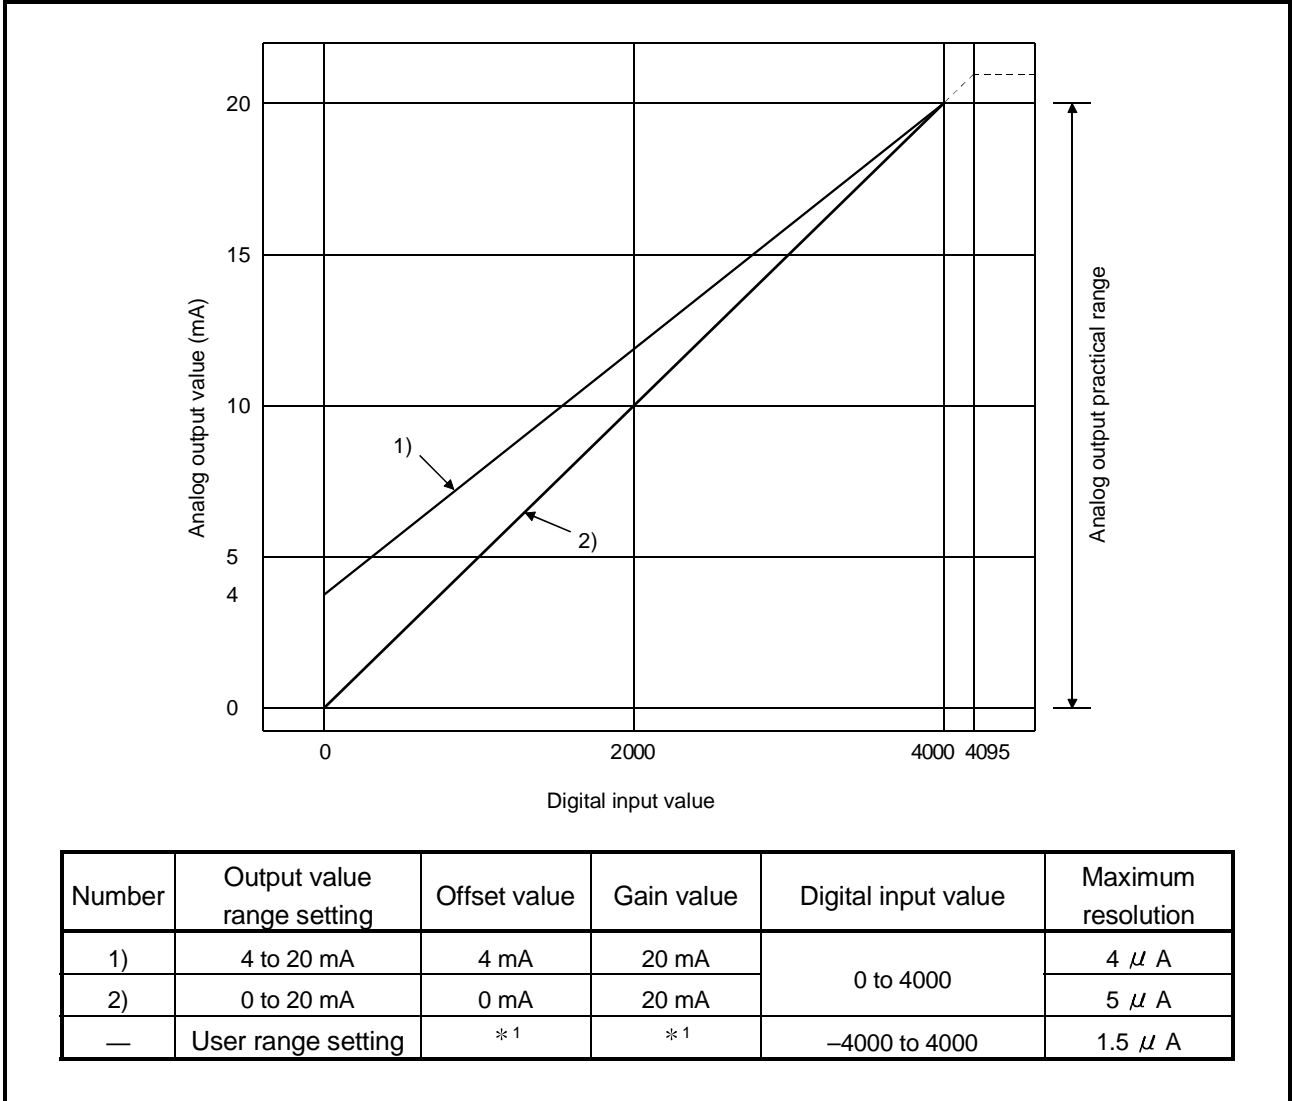

Figure 3.3 Current output characteristic in normal resolution mode
Figure 3.3 shows a graph of the current output characteristic in normal resolution mode.
<p>(1) Set within the digital input range and analog output range for each output range. If these ranges are exceeded, the maximum resolution and accuracy may not fall within the performance specifications. (Avoid using the dotted line area shown in Figures 3.3 and 3.4.)</p> <p>(2) Set the offset/gain values for the user setting range *1 within a range in which the following conditions are satisfied.</p> <p>(a) Setting range is from 0 to 20 mA</p> <p>(b) { (Gain value) – (Offset value) } > A</p> <p><Value of A></p>